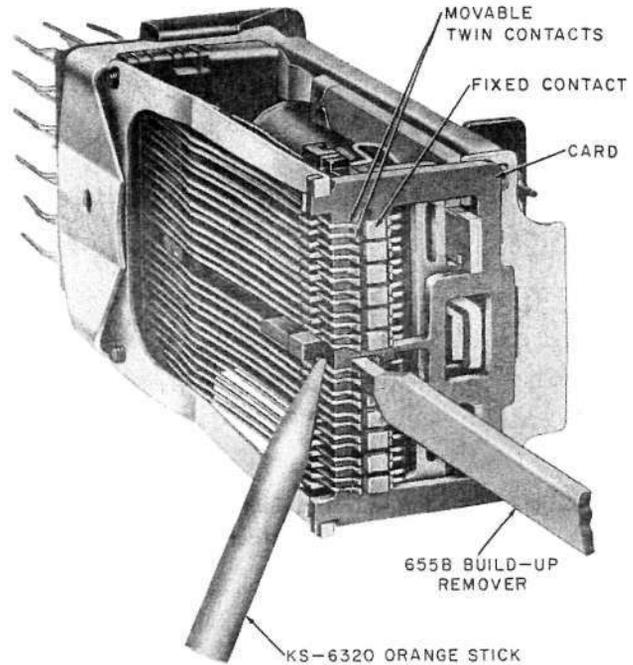

Fig. 37—Method of Removing Buildups On Twin Contacts of AF-, AG-, AJ-, AK-, AL-, and AM-Type Relays (Wire-Spring Type)
(1) Insert the 655B build-up remover between the twin and fixed contacts with the fixed contact seated in the groove of the build-up remover. On normally closed contacts, operate the relay manually, insert the build-up remover and release the relay. Exercise care when inserting the build-up remover to avoid pushing on the outer end of the contacts since this may distort the spring or force the contact off the spring. Insert the build-up remover only to the inner edge of the contacts to ensure that it will clear the card at all times.
(2) Press the twin contacts lightly against the build-up remover by applying the flat portion of the KS-6320 orange stick to the springs at the point where they rest on the card as shown in Fig. 37.
(3) Move the build-up remover back and forth against the contacts to remove the buildup, being careful to keep the build-up remover approximately perpendicular to the front of the relay. After two or three strokes, withdraw the build-up remover and inspect the contact surface with the aid of the 510C test lamp (with the tip removed). If the buildup is at the front or rear of the contact, its removal will be facilitated by slightly swinging the build-up remover to the left or right as required to more effectively reach the buildup.